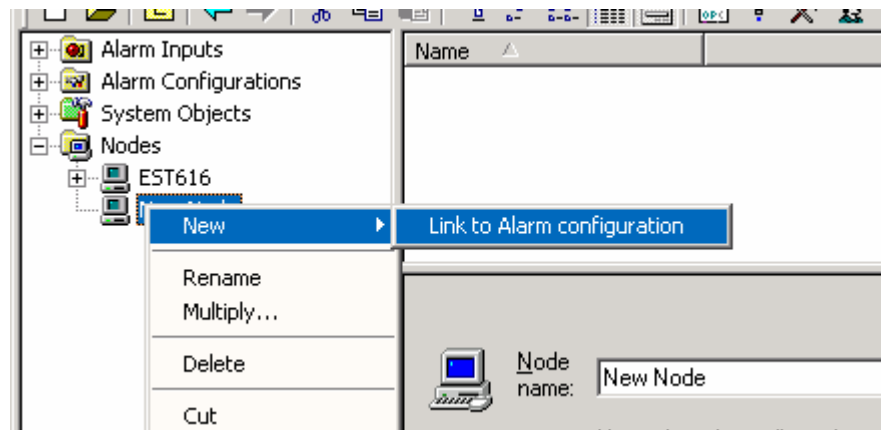

Figure 7.3. Creating a Link to an Alarm Configuration
4. Now you can link one or more alarm configurations to the node by right-clicking the node and selecting **New > Link to Alarm Configuration** from the pop-up menu, as shown in **Figure 7.3**.